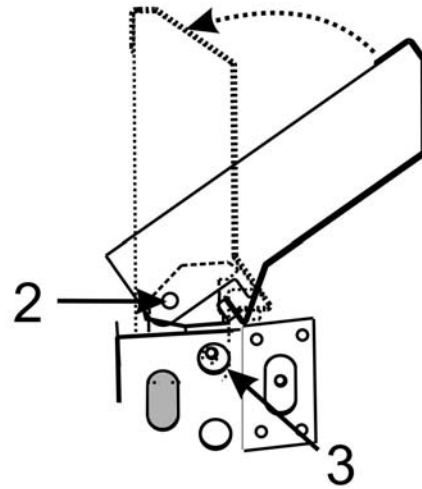

Figure 4: Low Backguard placement 2
10. Rotate the Low Backguard to a vertical position, aligning hole 2 in the Low Backguard with hole 3 on both sides of the range (see Figure 4).